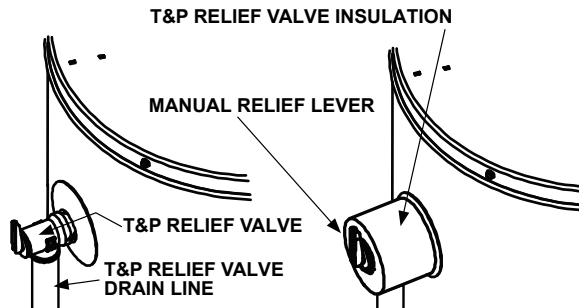

FIGURE 11.
1. Locate the temperature and pressure relief valve on the water heater (also known as a T&P relief valve). See Figure 11.
3. Spread the slit open and fit the insulation over the T&P relief valve. See Figure 11. Apply gentle pressure to the insulation to ensure that it is fully seated on the T&P relief valve. Once seated, secure the insulation with duct tape, electrical tape, or equivalent. **IMPORTANT:** The insulation or tape should not block or cover the T&P relief valve drain opening. Also, the insulation or tape should not block or hinder access to the manual relief lever (Figure 11).